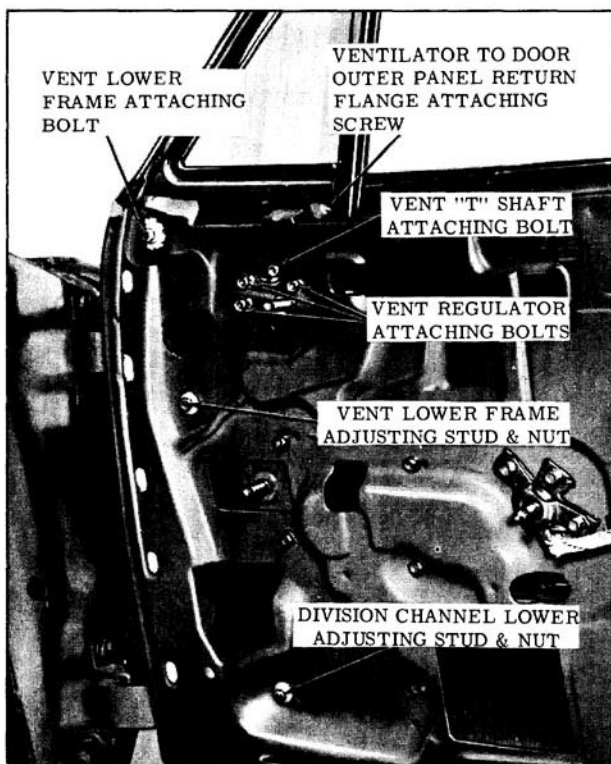

Fig. 16-40 Ventilator Assembly
3. Remove ventilator tee shaft attaching bolt and ventilator regulator attaching bolts. (Fig. 16-40)
Excessive "play" of ventilator at pivot shaft, when ventilator is in an open position, can be corrected by tightening ventilator tee shaft to regulator attaching bolt. (Fig. 16-40)
- Lower door window. Remove ventilator to door outer panel return flange attaching screw. (Fig. 16-40)
- Remove ventilator division channel lower adjusting stud and nut. (Fig. 16-40)
- Remove ventilator lower frame attaching bolt and ventilator lower frame adjusting stud nut. (Fig. 16-40)
3. To adjust lower portion of ventilator division channel for alignment with window assembly, lower door window and loosen ventilator division channel adjusting stud nut. Turn adjusting stud in or out or position lower end of channel fore or aft, as required; then retighten adjusting stud nut. (Fig. 16-40)